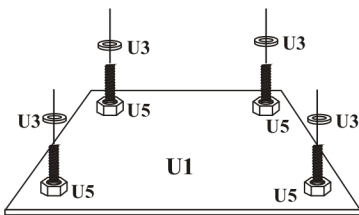

FIGURE 1A
- A. Slide a Thick Washer (U3) over each of the J-Bolts (U2) as shown in FIGURE 1A.